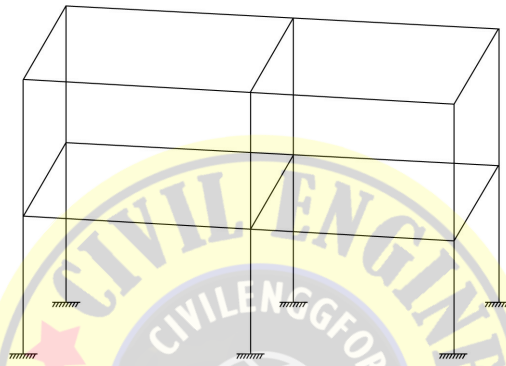

Fig. Q. 33
33. Figure Q. 33 shows a rigid jointed two storey space frame. Its static indeterminacy is